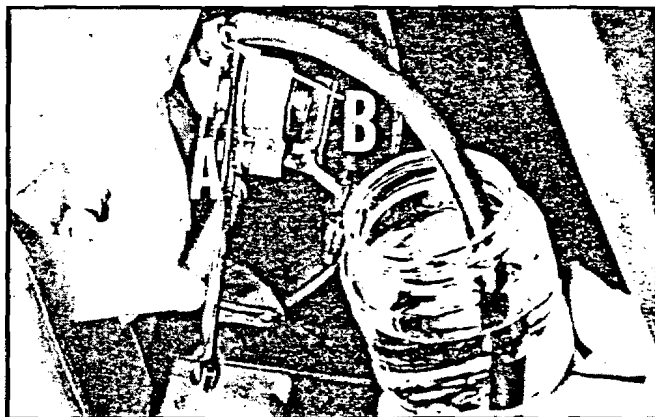

Figure 3
2. Slip a rubber tube over ball of bleeder valve (A) (figure 3) and direct flow of fluid into a container. (DO NOT RE-USE FLUID.)
3. Squeeze brake lever—a full stroke, unscrew bleeder valve (B) (figure 3) 3/4 of a turn to release air. Close bleeder valve, then release brake lever. Repeat this procedure until fluid flows from bleeder valve in a solid stream that is free of air bubbles. Refill reservoir after bleeding operation.